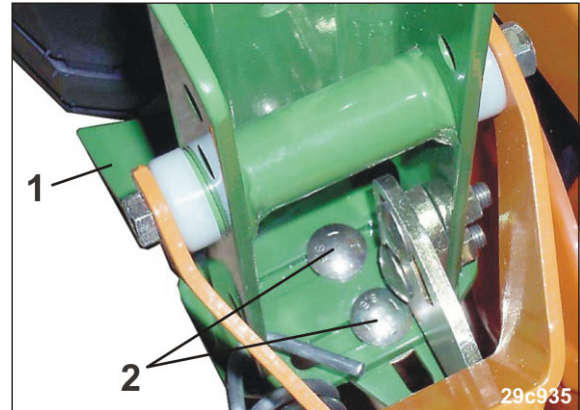

Fig. 232
1. Loosen the bolts (Fig. 232/2).
2. Adjust the wheel scraper (Fig. 232/1).